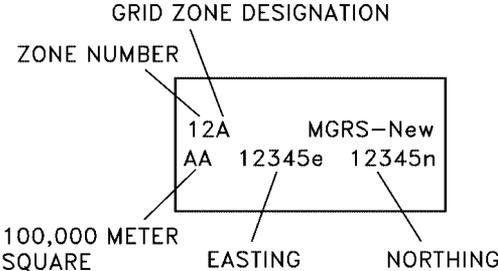
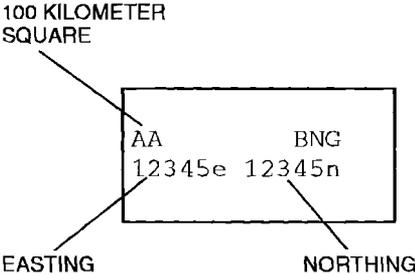

Figure 3-6 MGRS (Old/New) Position Format.
Figure 3-10 BNG/IMG Position Format.
3.5.4.1 Coordinate System. The coordinate system selected affects the position and waypoint displays. Examples *MGRS (Old or New)*, *UTM/UPS*, *L/L-dm.*, and *L/L-dms* formats are shown in Figure 3-6 through Figure 3-10.
- a. In certain geographical areas the second letter of the 100,000 meter square (see Figure 3-6) is shifted between the two *MGRS* systems as shown.
- (1) Second letter: ABCDEFGHJKLMNPQRTSUV
- (2) Shifted letter: LMNPQRSTUVWXYZ